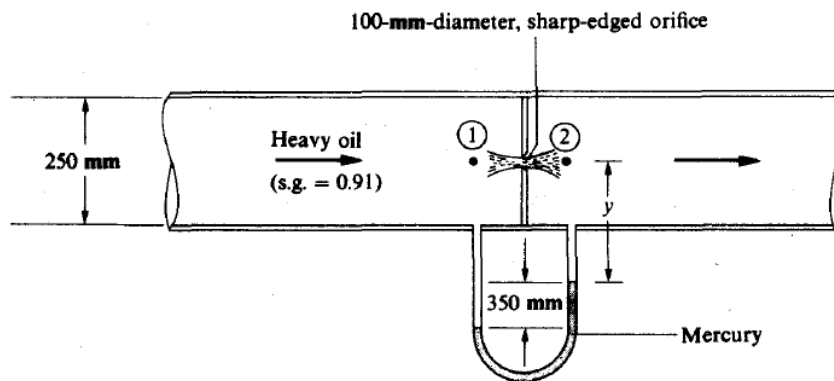

Fig. 17-17
17.79 Oil flows through a pipe as shown in Fig. 17-17. The coefficient of discharge for the orifice in the pipe is 0.63. What is the discharge of oil in the pipe?